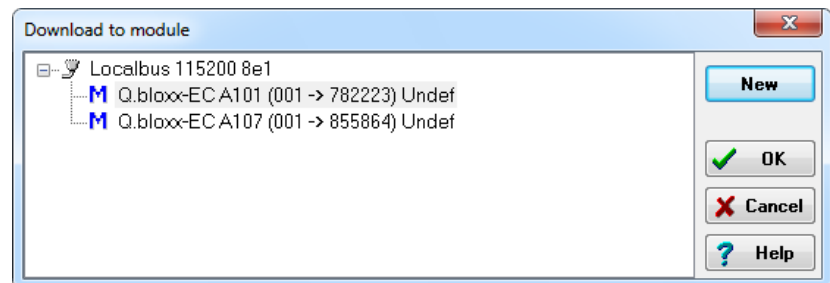

Fig. 6-16 Selecting the module for firmware update.
2. Select the required menu (Fig. 6-16) and click on **OK**.